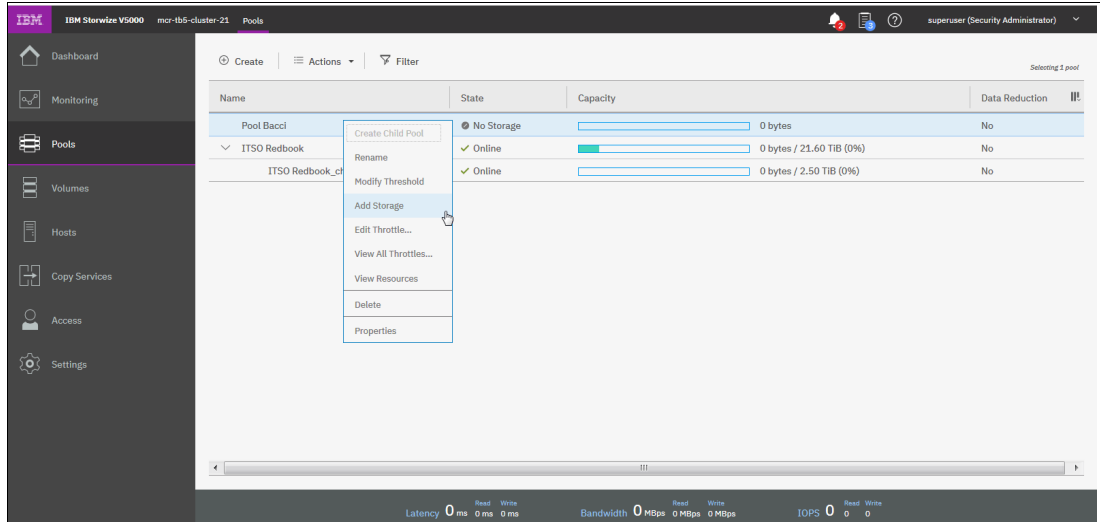

Figure 4-40 Add storage: option 1
Right-click the pool and select **Add Storage**, as shown in Figure 4-40. Alternatively, select a pool and click **Actions**.
- Option 2: Select **Assign** under a specific drive class or external storage controller, as shown in Figure 4-40.